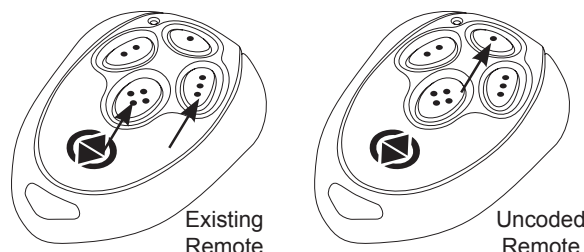

Fig. 16
- 3 Press any button on new transmitter twice (Fig. 16). The opener will beep and light will flash twice to confirm code learned. Test new transmitter.